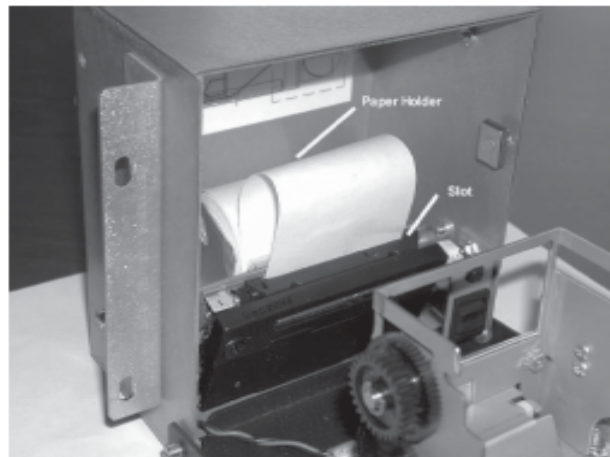

Figure 8-1. Paper Compartment
2. Tilt printer mechanism forward to access paper holder. See Figure 8.1 for the following steps.